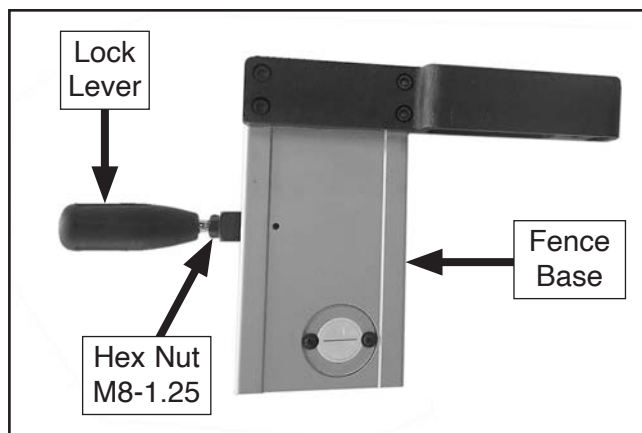

Figure 31. Fence base lock lever installed.
10. Thread (1) M8-1.25 hex nut onto lock lever, install lock lever onto fence base, then tighten hex nut to secure (see **Figure 31**).